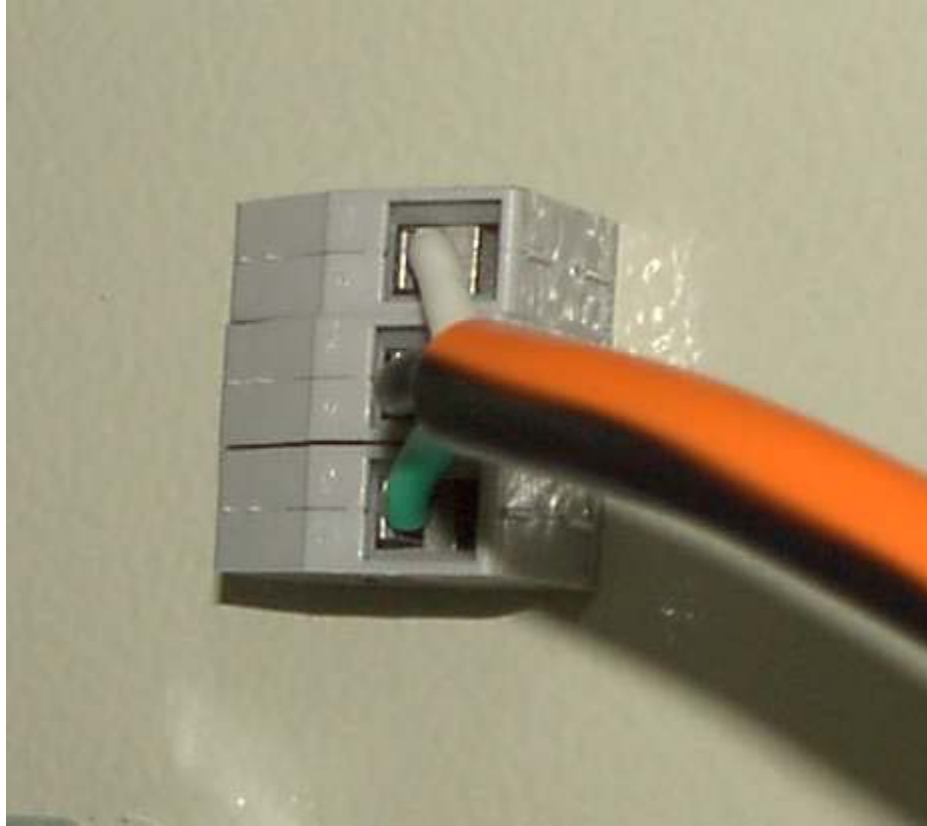

Figure 7. Power Connections
- c. Connect the power cables as shown in Figure 7.